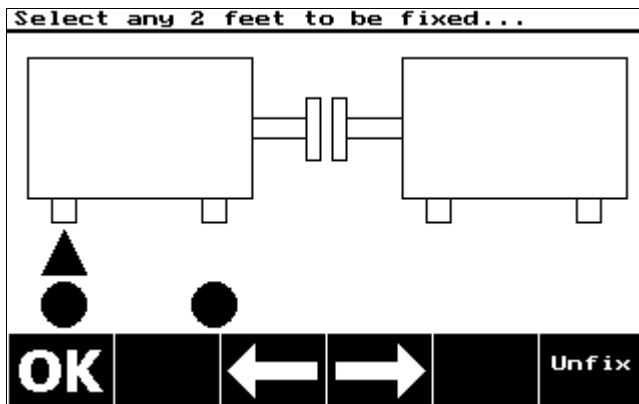

Figure 3
- 3) Use the **←** and **→** softkeys to move the triangle cursor under any foot and fix or unfix the foot using the **Fix** and **Unfix** softkeys as needed to make the left machine feet moveable and the right machine feet static (see Figures 3 and 4). A black circle under a foot signifies it is fixed, or static. Press **OK** when finished. ☐